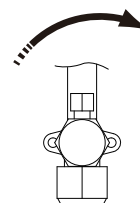

Fig. 5.38
- Use blind plugs to block all liquid (gas) side openings, except for the opening at the indoor unit which is furthest from the outdoor units ("Indoor unit A" in Fig.5.38).